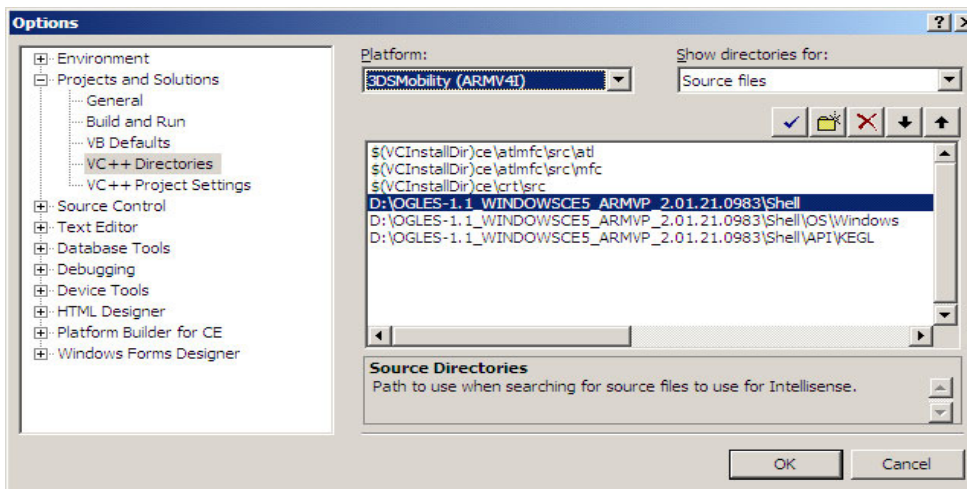

**Figure 13. Options Menu with Show Directories for: Library Files**
3. In the Options menu, select the settings as shown in Figure 13.